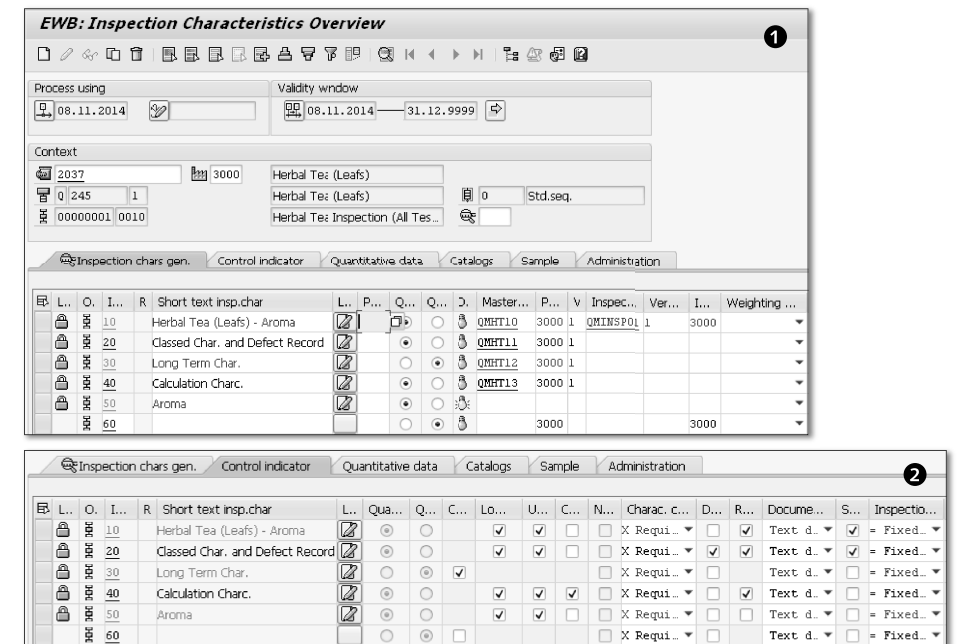

Figure 3.30 Characteristics Overview
In Figure 3.30 ❶, choose all five characteristics and then choose the CONTROL INDICATOR tab, which brings up ❷. In ❷, you can change the settings of any of the five characteristics, or even delete characteristics that you no longer use in the inspection plan.
After you choose all five characteristics in Figure 3.30 ❷, you'll see the MASS CHANGE INSPECTION CHARACTERISTICS screen. Choose the INSPECTION METHOD column and then navigate from the menu to EXTRAS • MASS CHANGE. Here, you can